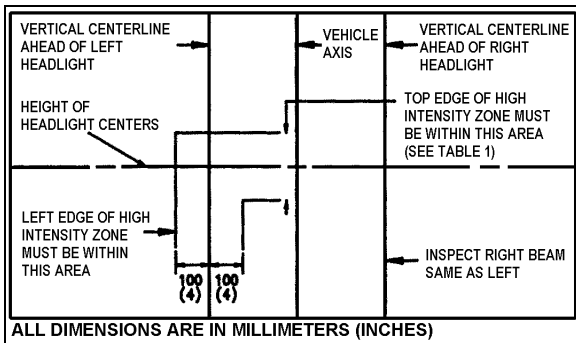

FIGURE 50: AIM INSPECTION LIMITS FOR LOWER-BEAM HEADLIGHTS 06506
- The inspection limits in the vertical direction for low-beam headlights or the low beam of a dual-beam headlight, shall be as described in Table 1. In the horizontal direction, the left edge of the high-intensity zone shall be located from 10 cm (4 inch) left to 10 cm (4 inch) right of the vertical centerline of the beam. The viewing screen shall be located 7.6 m (25 ft.) in front of the vehicle (Figure 50).